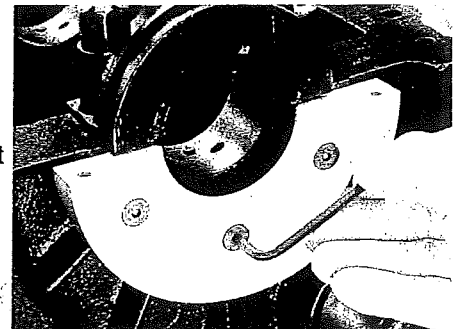

FIGURE 1
6) After smearing a thin coating of the provided Loctite #587 Sealer on the block mating surface, install the upper half of the Seal Retainer to the block, using the three 8mm countersunk screws supplied. Tighten these three screws securely. (REFER TO FIGURE 1) (The semicircular gasket is not used).